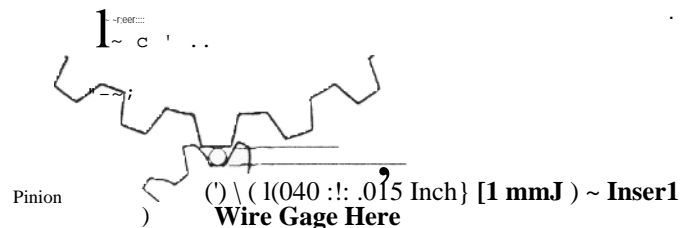

Figure 3 Electrical
Note: (3) terminals at end of solenoid (See Fig. 3)